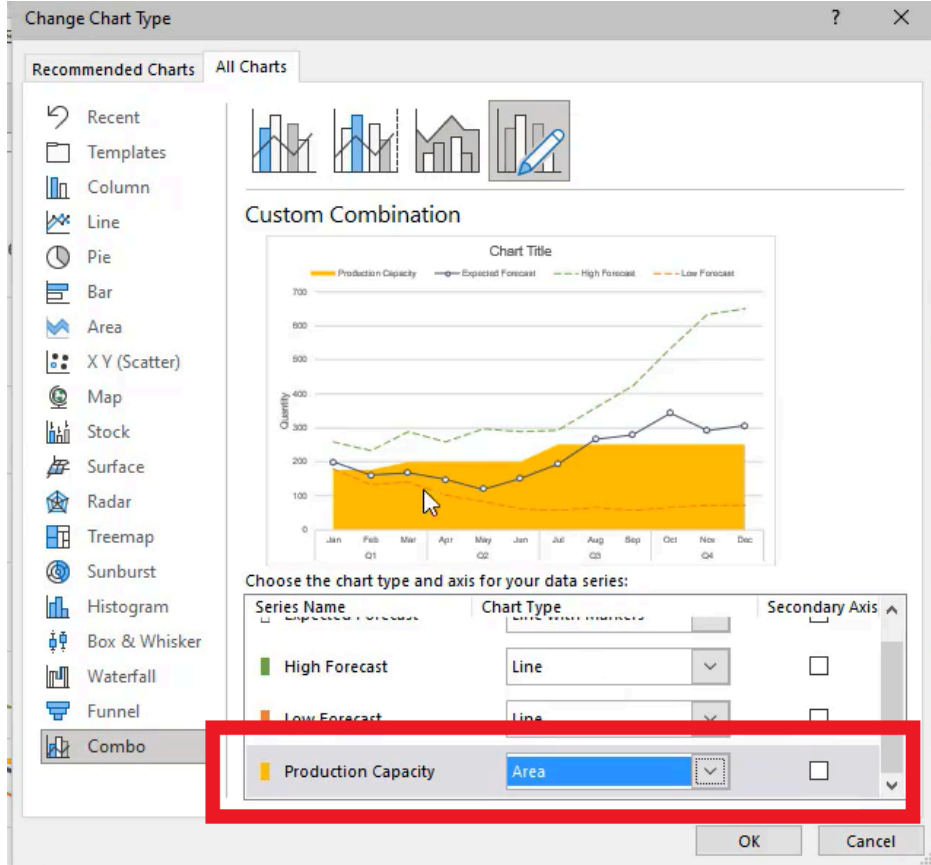

Figure 37.17
2. Change the Production Capacity Series to **Area Chart**. (See **Figure 37.17**)